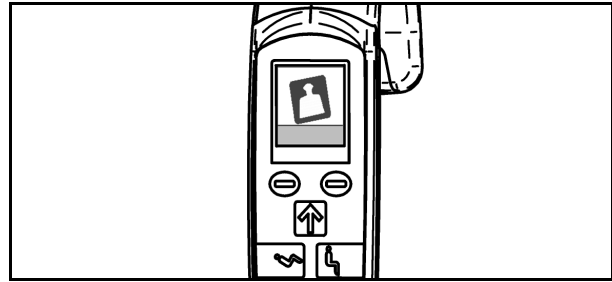

Fig. 56
**NOTE: FOR EUROPEAN SCALES ONLY, if the display shows the larger "TILT" symbol alternating with the scale symbol, relocate the Maxi Move to a level position so that the scale can be operated correctly (see Fig. 56).**